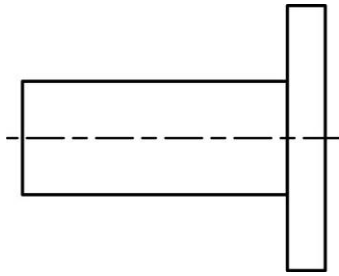

Fig.2
- a) Weld the flanges to the straight pipe runs (pipeline) considering that the straight pipe run (pipeline) axis should be perpendicular to the flange plain adjacent to PFC (see Fig.2).